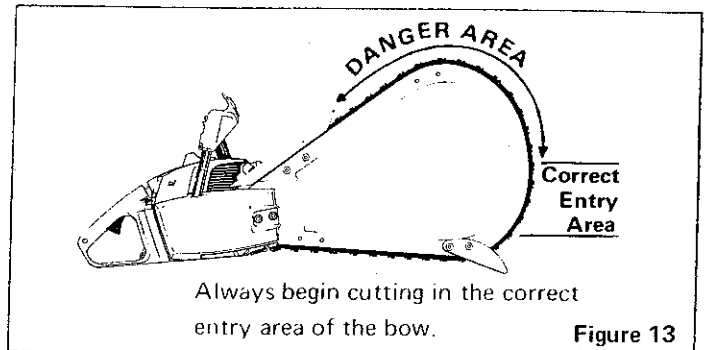

Figure 13
1. When the bow contacts an object in the danger area, (See Fig. 13) the bow is thrown upward with considerable force. **THIS IS KICKBACK!**
2. Be sure the spikes are in place against the log before beginning the cut. (See Fig. 13)